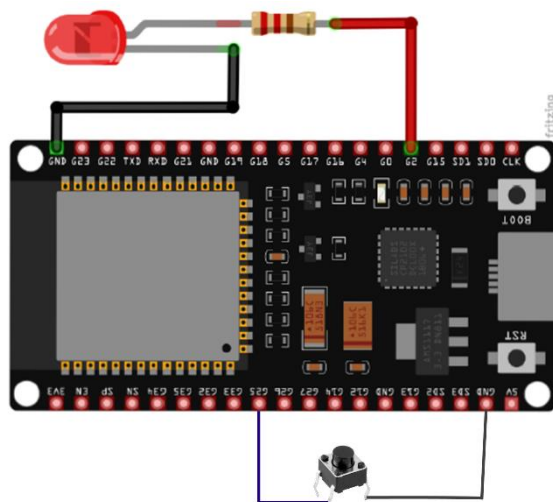

Figure 1: Button and LED circuit
1. Using the circuit implemented in the previous training sheet, add a pushbutton to the circuit using pin G25 to read the state of the button to look like Figure 1.